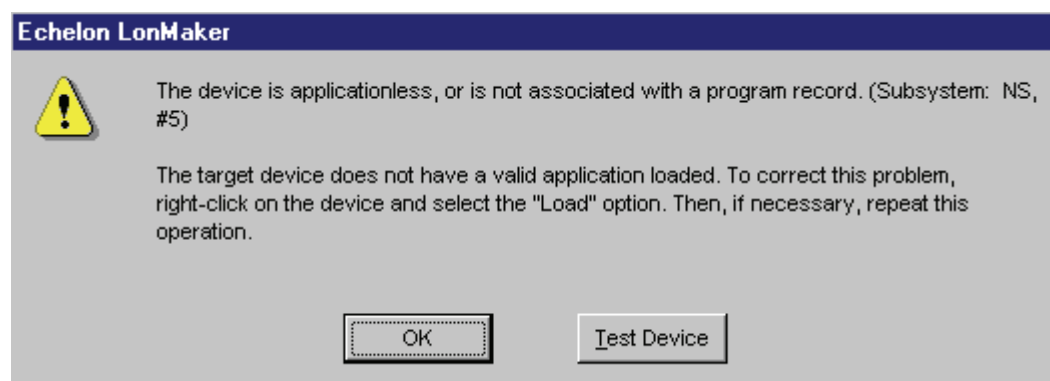

FIGURE 23. “THE DEVICE IS APPLICATIONLESS” ERROR MESSAGE
2. If an “Applicationless” error (see Figure 23) occurs while trying to commission the ModLon II, it will be necessary to load the ModLon II.nxe file to the device. Just commission the device and load the ModLon II.nxe file. Make sure that the xif file is the same as the stencil drawing.